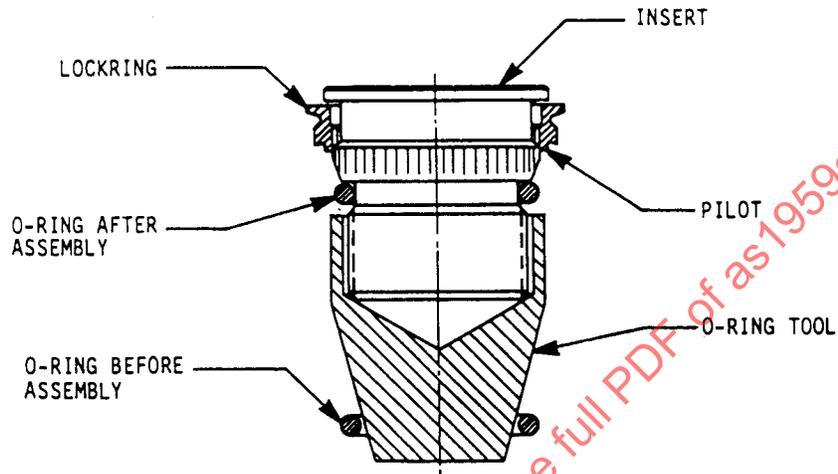

FIGURE 2
- 5.1.1 Slide the locking over the insert thread and engage into insert serrations such that the pilot of the locking faces the thread (see Fig. 2).
- 5.2.3 Slide the O-ring over the O-ring tool and onto the insert. Be sure that the O-ring is not twisted and is properly seated in the thread undercut of the insert (see Fig. 2).